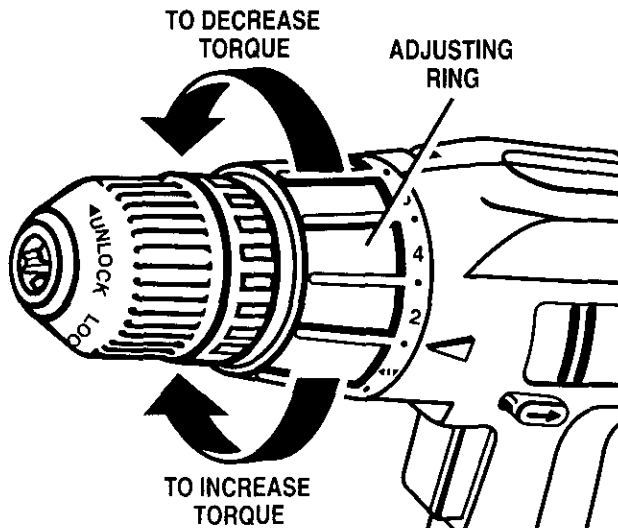

Fig. 9
See Figure 9.
- Identify the twenty four torque indicator settings located on the front of your drill. See Figure 9.